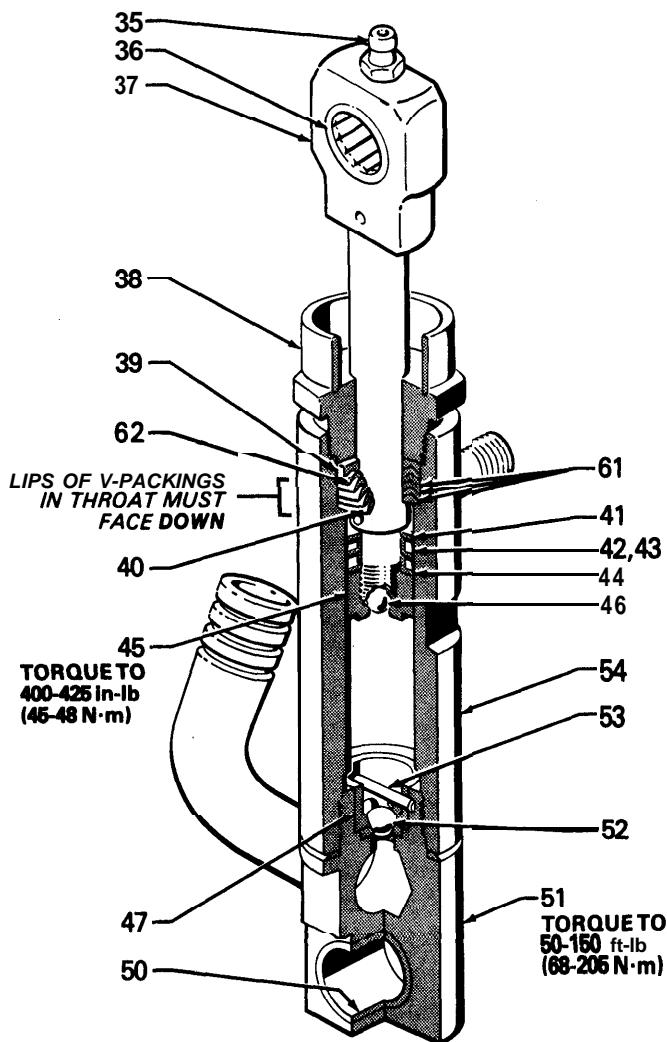

Fig 7
Screw the intake valve (51) housing out of the displacement cylinder (54). Remove the ball stop pin (53), guide (47), and ball (52). Clean and inspect for wear or damage. Reassemble, using new parts from the repair kit. Torque the intake valve housing to 50-150 ft-lb (68-205 N·m). See Fig 7.
Screw the packing nut (38) out of the displacement cylinder (54). Carefully pull the displacement rod assembly (34) and piston housing (45) out of the cylinder. Wrap the rod end with tape to protect the bearing (36) and clamp securely in a vise. Screw the piston off the rod using a wrench on the hex of the piston (if it's too tight, heat it in boiling water to soften the locking compound). Remove the ball (46), glands (41,441) and packings (42, 43). Slide the throat packings (61, 62) and glands (39, 40) off the rod. Clean and inspect. Install the repair kit parts. Be sure to install the PTFE and leather packings in the order shown. See Fig 7 and the Parts Drawing.
Use an arbor press to remove and install bearings (36, 50) in the displacement rod (37) end and in the intake valve (51) housing. See Fig 7. When replacing the displacement rod bearing, be sure the hole in the bearing lines up with the lubrication hole at the top of the rod. See Fig 7. Soak the valve bearings in oil before installing. Grease the displacement rod bearing whenever the pump is removed.